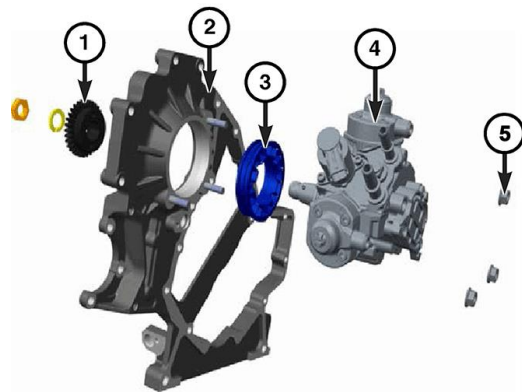

Figure 13 – HPFP Removal
35. Remove the fuel injection pump mounting nuts (5), and remove the pump (4), pilot adapter (3), and gear (1) from the engine by pulling straight backwards on the pump. Make sure the fuel pump gear does not contact or damage the bore in the gear housing during removal (Figure 13).